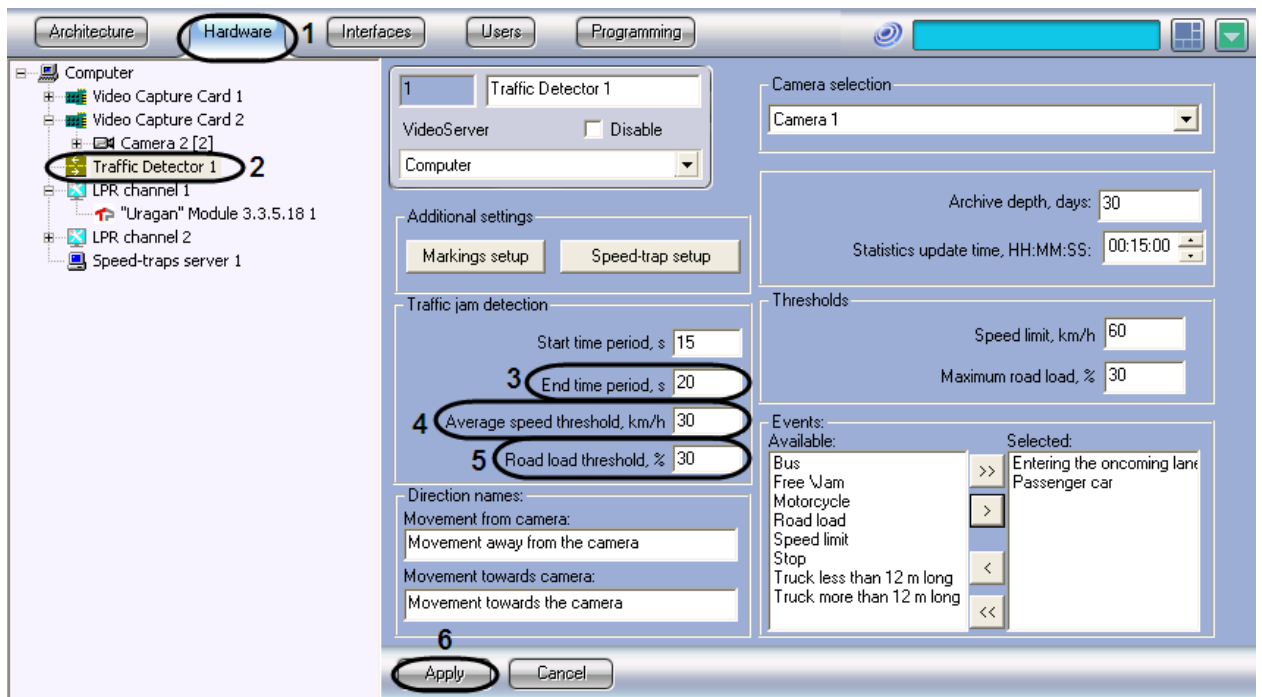

Fig. 7.4—18 Jam end parameters setup
2. In the object tree on the left side of the Hardware tab, select the Traffic Detector object representing the Traffic Detector module to be set up. The settings panel of the selected object will open on the right side of the window (see Fig. 7.4—18).